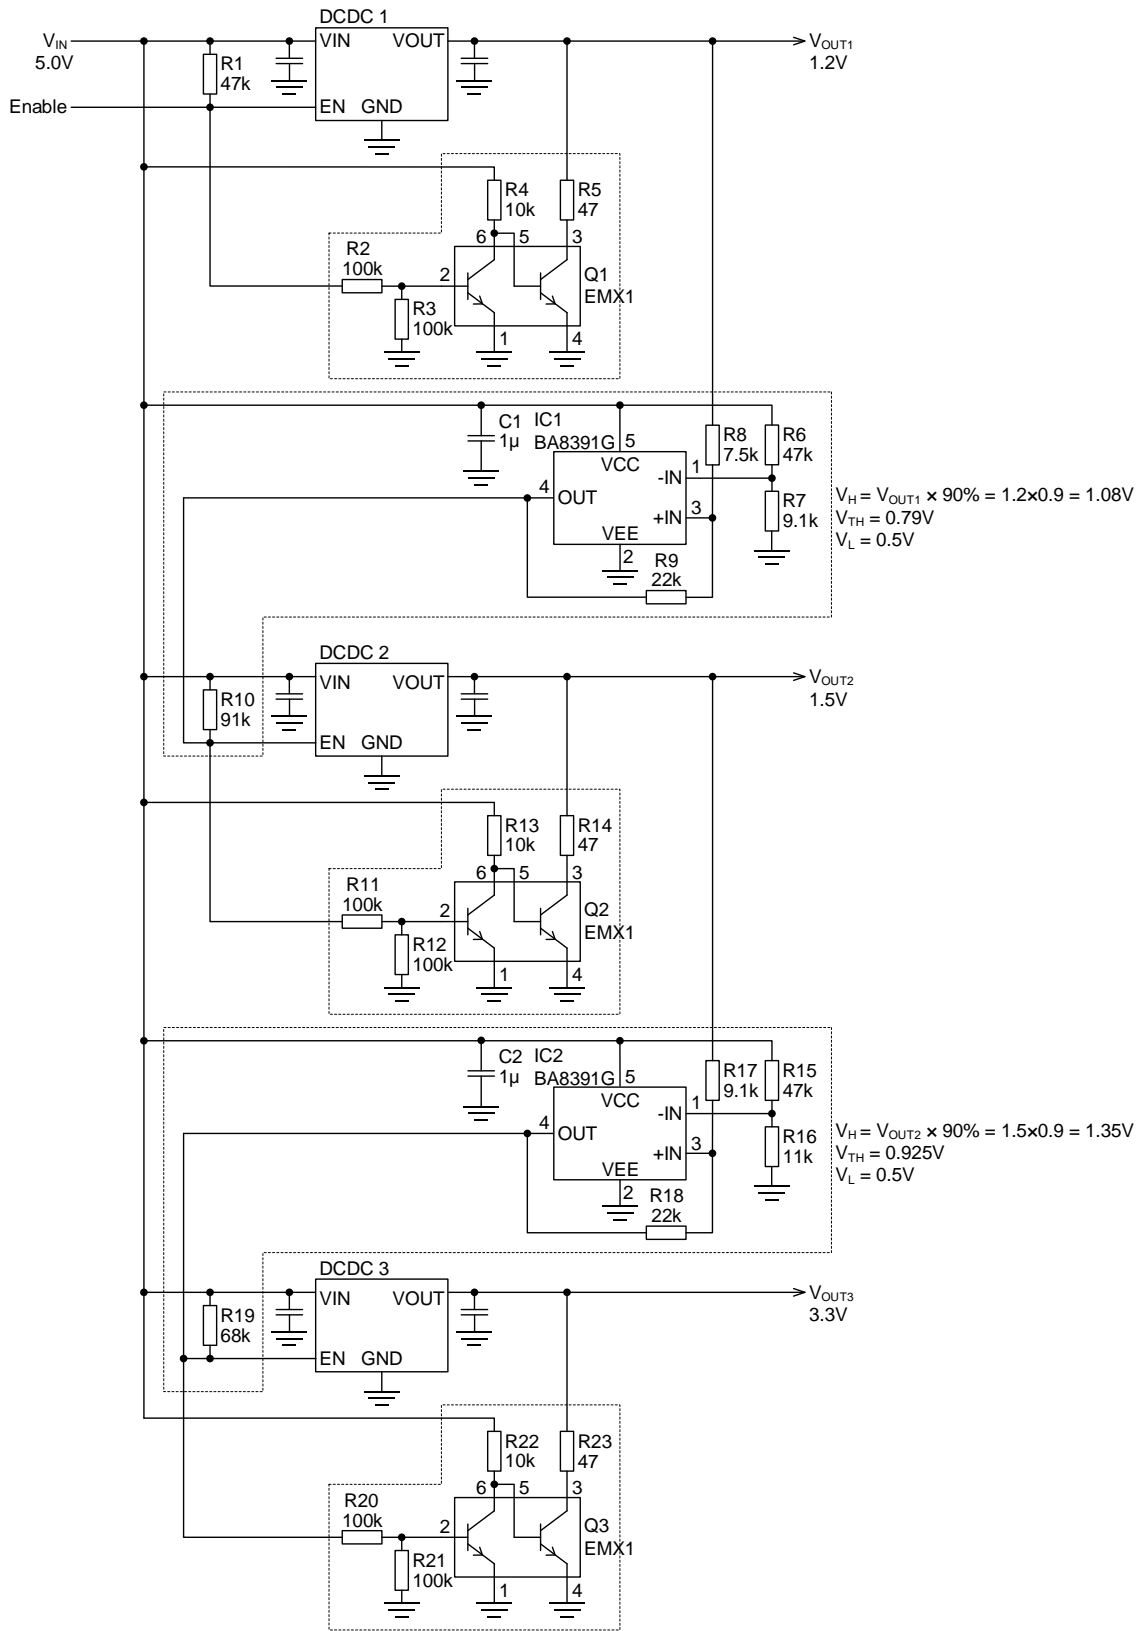
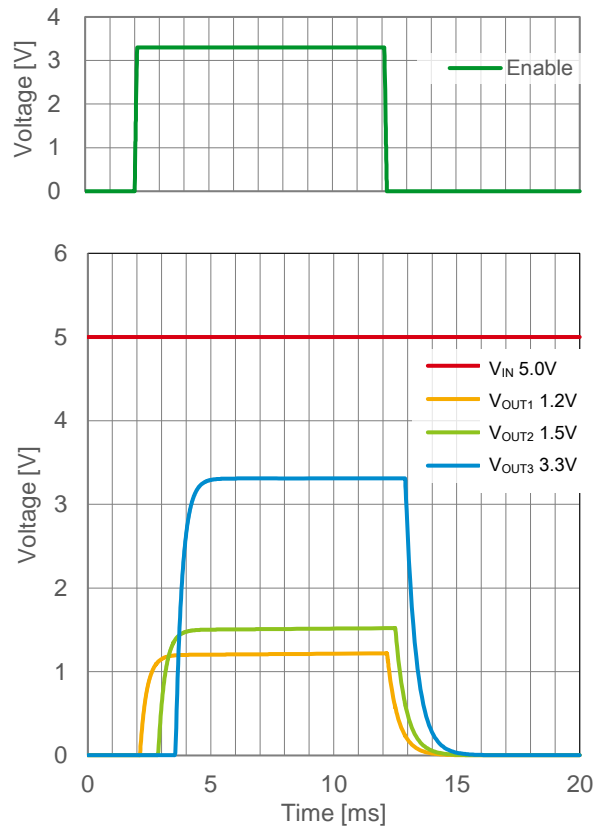

Figure 2-11. Example of a circuit that accomplishes the power supply sequence
Figure 2-15. Operation waveforms of the power supply sequence
Figure 2-11 shows an example of a circuit that accomplishes the power supply sequence. The DCDCs in the 3 systems are assumed to be switching regulators (DC/DC converters) or linear regulators (LDO). The DCDCs feature an enable (EN) pin that can control the ON/OFF of the output.
First, we look at V_H , the detection voltage when turning ON the power. In the example shown in Figure 2-11, V_{OUT1} is 1.2 V and the PGOOD IC1 is set to output the flag when 90% of the output voltage is reached. The detection voltage V_H is $1.2 \text{ V} \times 0.9 = 1.08 \text{ V}$. Next, V_L , which is the detection voltage when turning OFF the power, is set to 0.5 V. At this voltage, parasitic elements generally will not be turned ON even if reverse voltage is applied between the power supplies.
Figure 2-15 shows an example of the operation of the circuit in Figure 2-11. The voltage from the main power supply (V_{IN} 5.0 V) is always applied. To turn ON the power, switch the Enable pin from “Low” to “High”. Then, the output is turned ON in the order of V_{OUT1} , 2, and 3 according to the specification initially created. Next, to turn OFF the power, switch the Enable pin from “High” to “Low”. The output is turned OFF in the order of V_{OUT1} , 2, and 3.